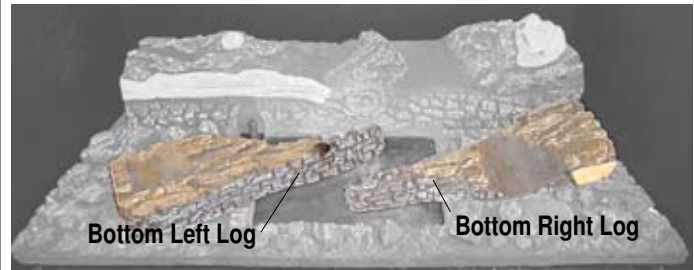

Figure 29d. Bottom left and right log placement.
3. Place the bottom left and right logs as shown below in figure 29d.